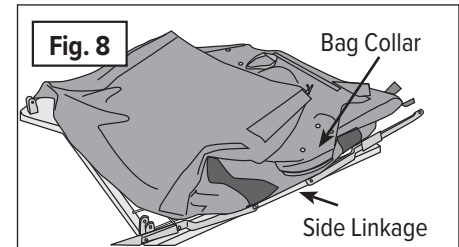

Fig. 8
1. **(Fig. 8)** Place the Collector Bag onto the Collector Frame with the round Bag Collar facing the side with the Side Links and opposite the Extender Brackets.